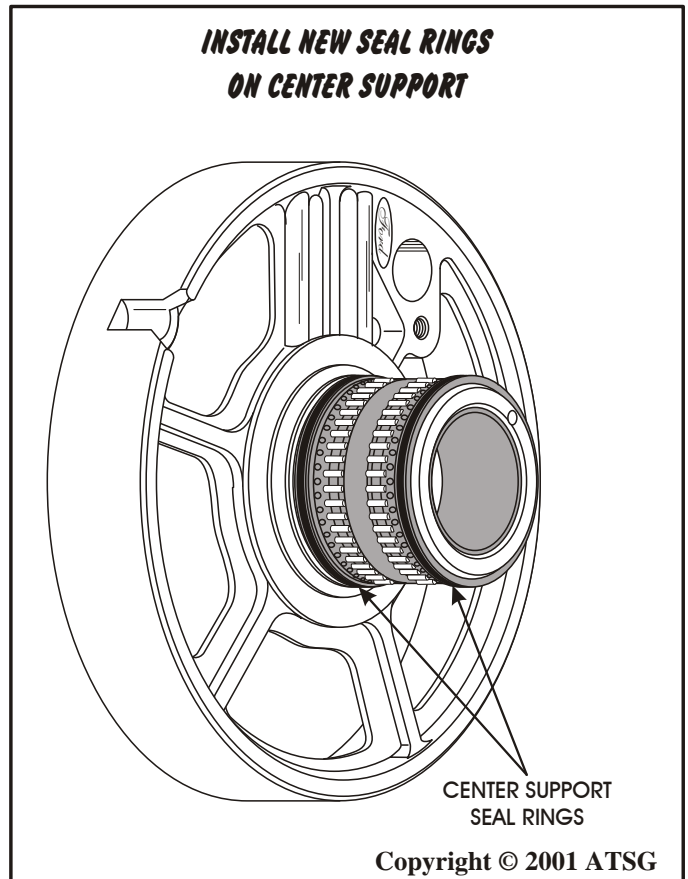

Figure 93
5. If you cannot visually see any crack, install new sealing rings onto the center support, as shown in Figure 93.